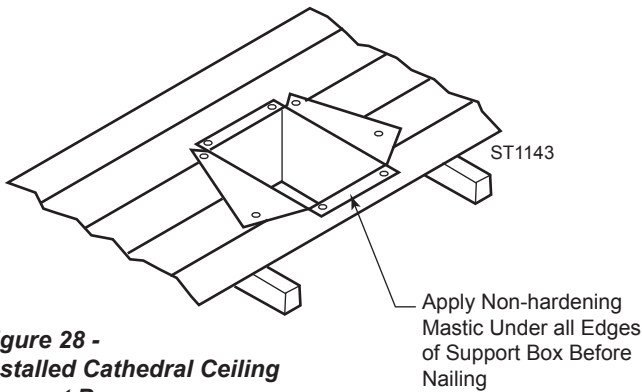

Figure 28 - Installed Cathedral Ceiling Support Box
4. Using tin snips, cut the support box from the top corners down to the roofline and fold the resulting flaps over the roof sheeting. *Figure 28*. Apply a bead of non-hardening mastic around the top edges of the support box to make a seal between the box and the roof. Nail in place with roofing nails. Remove any combustible material that might be inside the support box.